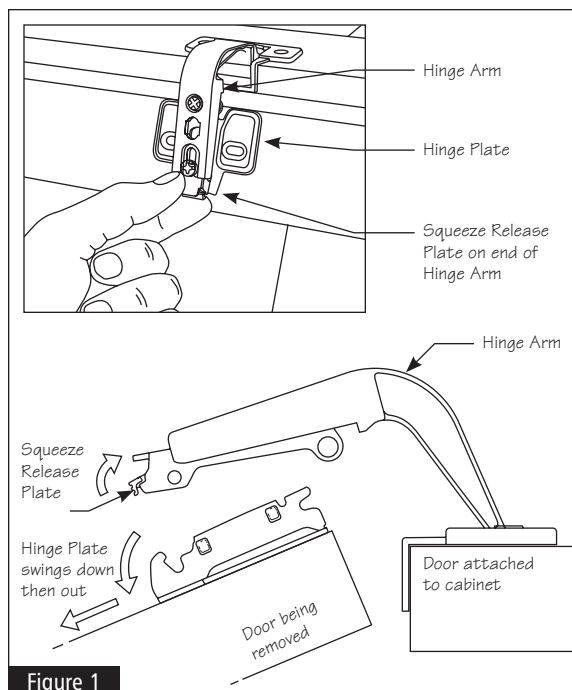

Figure 1
- 1** Separate the door halves by squeezing the release plate on the end of the hinge arm and gently lifting the hinge arm off the hinge plate. Lay the door on a clean flat surface. See Figure 1.